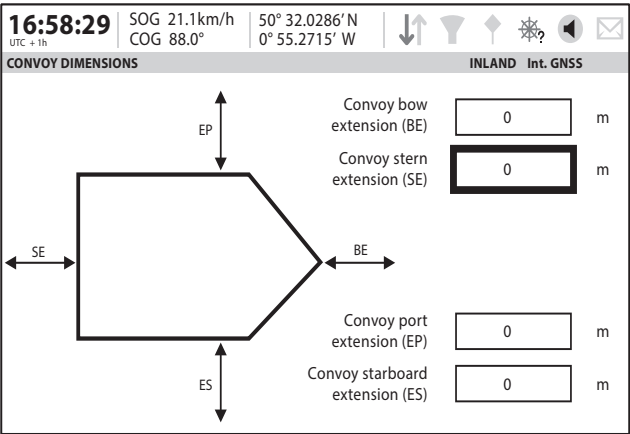

Figure 27 Convoy dimensions screen
- Convoy dimensions - enter the extension beyond the normal vessel size of any convoy attached. See Figure 27.